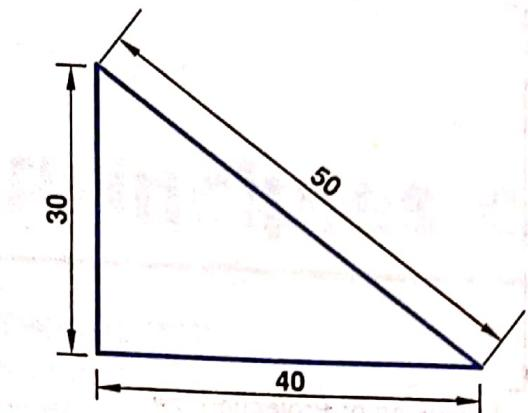

Fig. 3.5 Projection lines on a tapered surface
- (iii) Projection or extension lines must be drawn perpendicular to the part to which it is to be dimensioned. See Fig. 3.5.